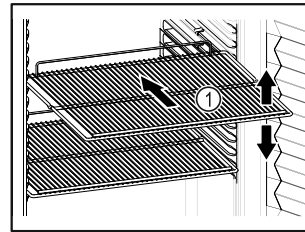

Fig. 62 Example illustration
- ☐ If there are adjustable shelves Fig. 62 (1), position them as required.